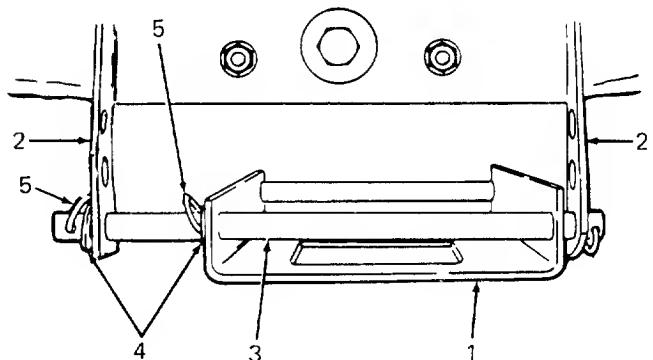

Figure 47
5. With the left front wheel turned to the left, attach the front hanger assembly to the front hanger bracket by passing the tractor hanger rod through the bottom mounting holes of the front hanger bracket. Remember to attach the center flat washer to the rod after it passes through the right side of the front hanger assembly. Refer to Figure 47. Secure the tractor hanger rod with flat washer and hairpin coppers.